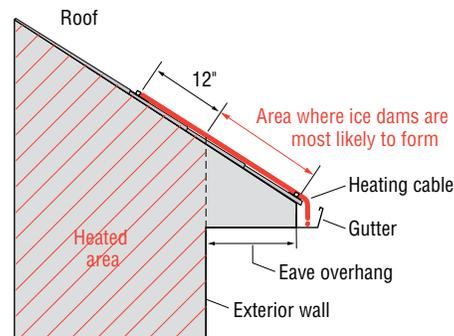

Figure 1.2 Side view of roof with WinterGard Wet system.
- Run heating cable up the roof until it is approximately 12 inches past the exterior wall into the heated area (see Figure 1.2 on page 3).
- For gutter deeper than four inches, additional cable will be needed, contact Tyco Thermal Controls at (800) 545-6258.
1 See Figure 1.2
- Run the heating cable up the seam until it is approximately 12 inches past the exterior wall and over a heated area (see Figure 1.2 on page 3).